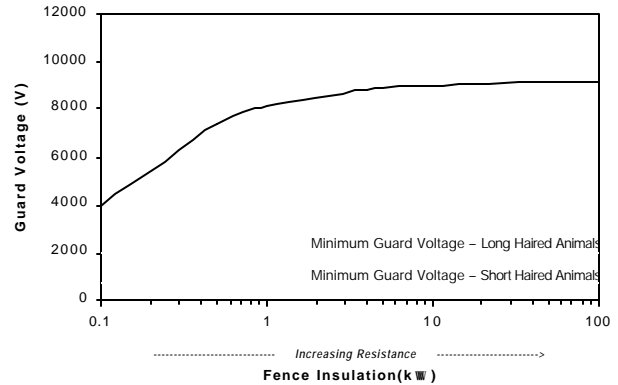

Figure 37. Guard Voltage for 3.3 mile (5.4 km) Fence.
**Shock Delivery:** Figures 37 and 38 show guard voltage outputs of the Stinger Plus AC for 3.3 and 10 mile (5.4 and 16 km) lengths of single wire fence over a range of resistances. Table 18 provides the guard voltages at the "weeded" and "clean" fence conditions. Guard voltage values for other fence conditions are given in Appendix II. The higher the guard voltage the higher the shock delivered to the animal.
As can be seen from **Figures 37** and **38**, low resistance did not appreciably affect shock delivery, since the voltage output was above 2,000 V for all fence conditions. The Stinger Plus AC can be expected to deliver shock over a wide range of fence conditions.